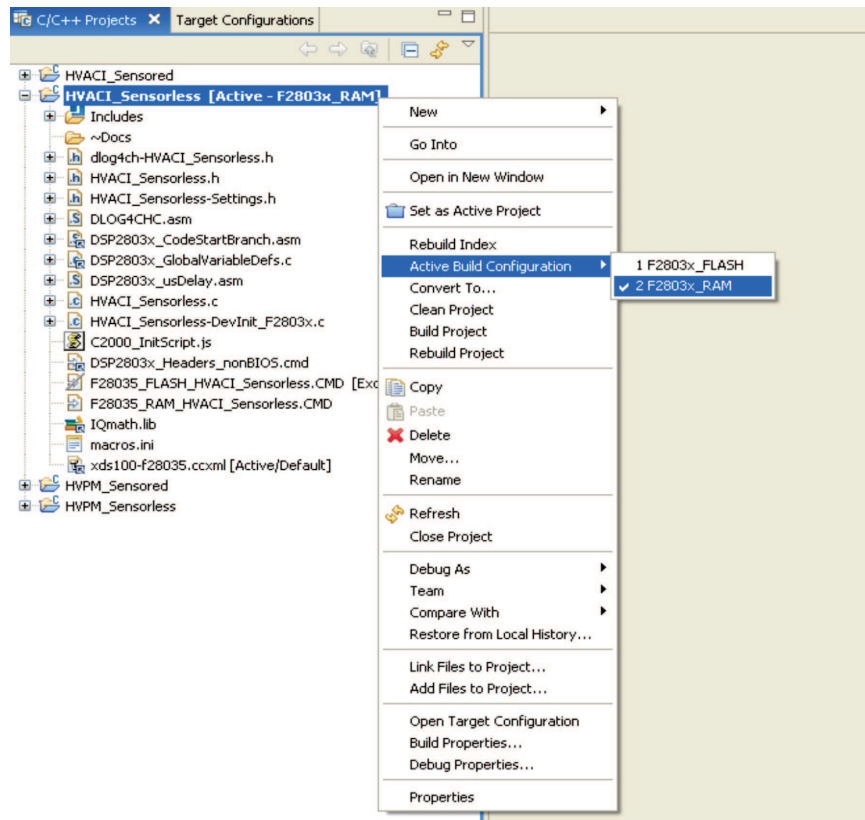

Figure 14. Selecting the F2803x_RAM configuration
3. As shown in Figure 14, right-click on an individual project and select Active Build Configuration → F2803x_RAM configuration.